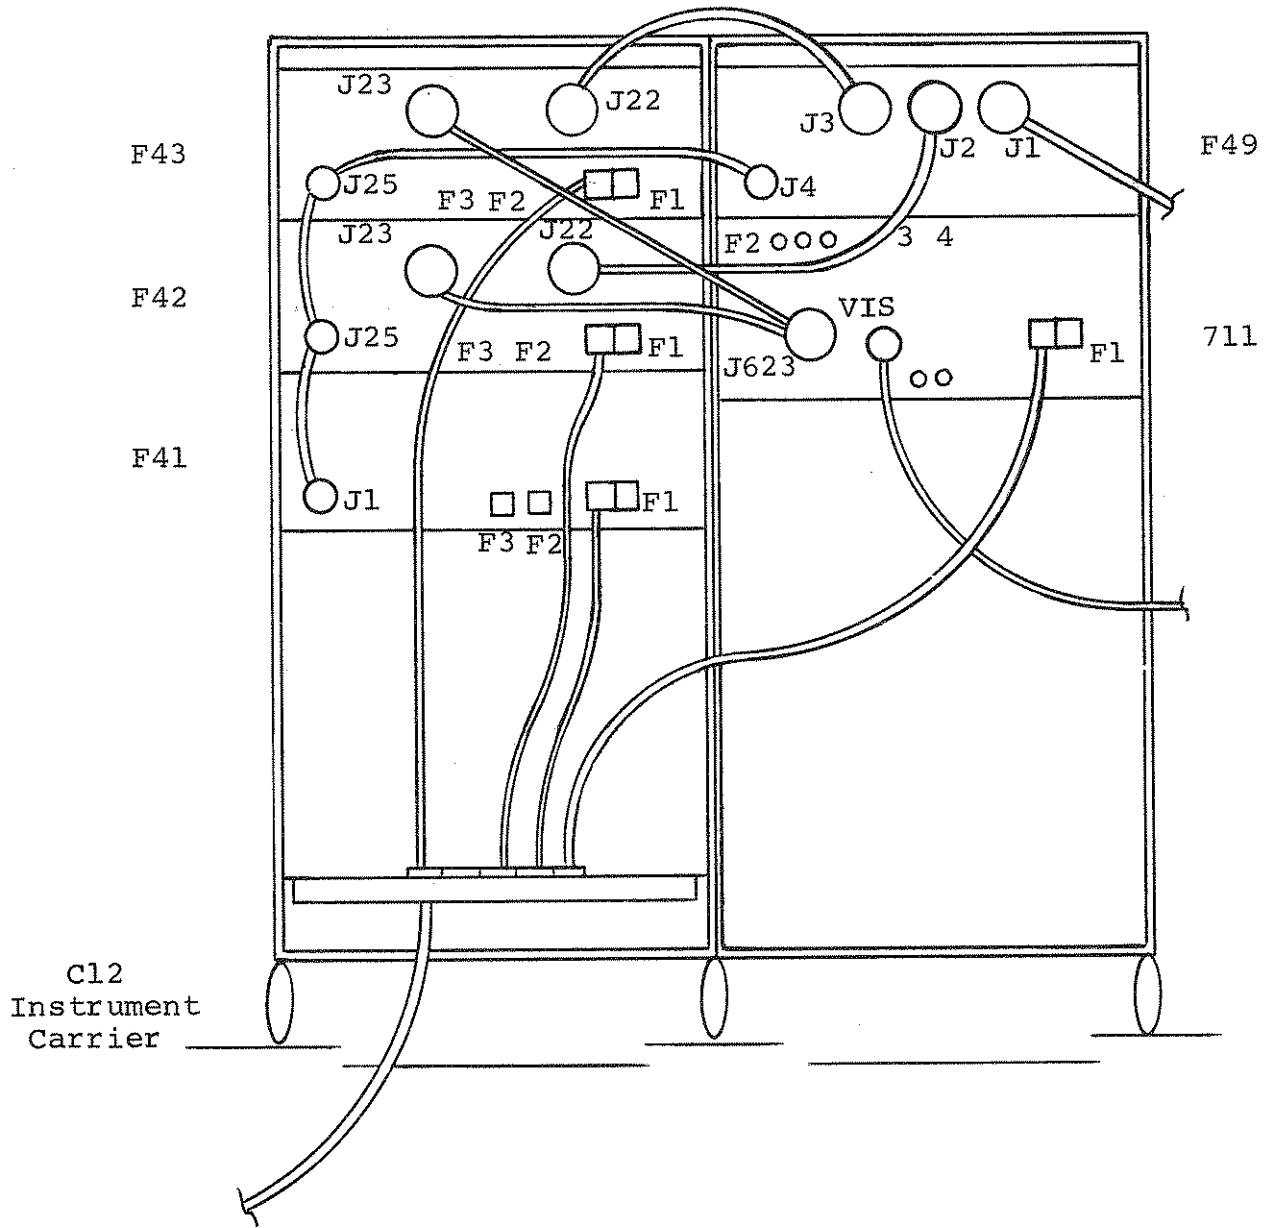

Figure 4-4
4.8.2 Installation (refer to Fig. 4-4 for rear connector locations)